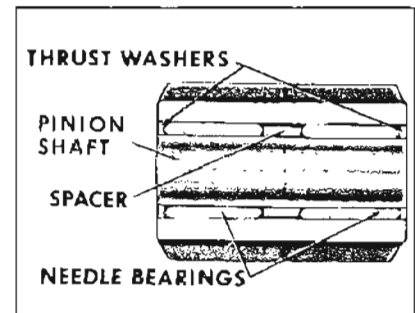

Figure 5-266
11. Remove needle bearings, spacer and two (2) thrust washers from the long planet pinion gear. See Figure 5-266.